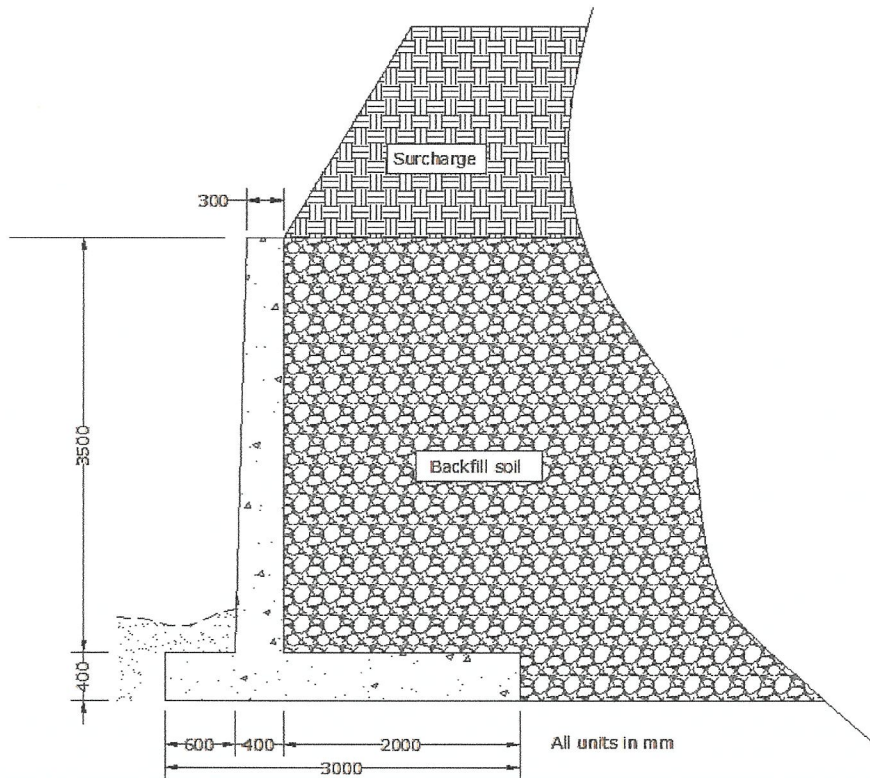

FIGURE Q4(c)
- (c) **FIGURE Q4(c)** shows the cross section of a cantilever retaining wall to be constructed for a rural road development at Batu Pahat area. The backfill soil is a well-compacted laterite soil having a density, $\gamma = 17 \text{ kN/m}^3$, angle of internal friction, $\phi = 32^\circ$, cohesion, $c = 0$, friction coefficient, $\mu = 0.45$, and ultimate bearing capacity, $= 200 \text{ kN/m}^2$. The surcharge load of 20 kN/m² has been imposed on top of backfill soil for a 6 months period in order to monitor the settlement of the backfill soil.